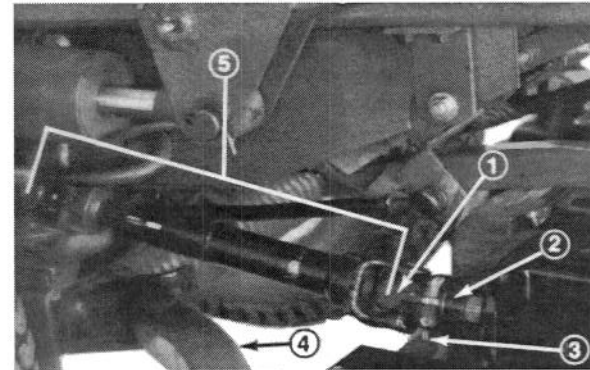

Figure 9
3. Drive the roll pin out of the yoke and input shaft of the gear box (Fig. 9). Also, loosen the capscrews and locknuts. Slide the yoke off the input shaft. If the traction unit will be used without the cutting unit, drive the roll pin out of the yoke at the PTO pivot shaft and remove the entire universal shaft from the traction unit.
5. Have a helper push down on the right push arm while you remove the capscrews, flatwashers, lockwashers and nuts securing ball joint mount to the caster arm on the cutting unit (Fig. 9). Now the helper can carefully allow push arm to move upward, which will gradually release the spring load.